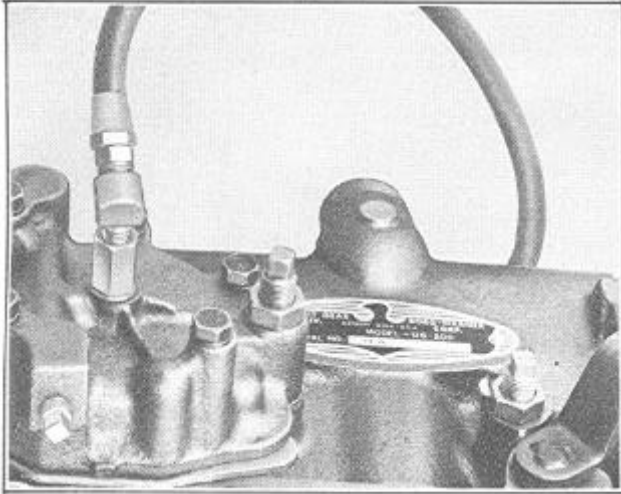

FIGURE 151
1. With the engine stopped, disconnect the transmission selector rod at the transmission selector lever. Move the selector control shaft lever, Figure 151, to "R" position.
fitting, Figure 151, at this point.